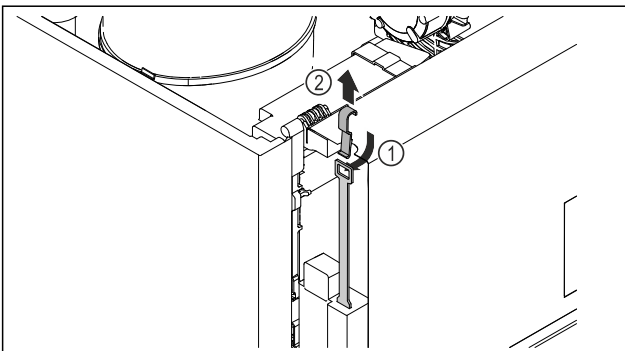

Fig. 209
- ▶ Insert the emergency release key from above Fig. 209 (1), hook it onto the lock and pull it upwards Fig. 209 (2).